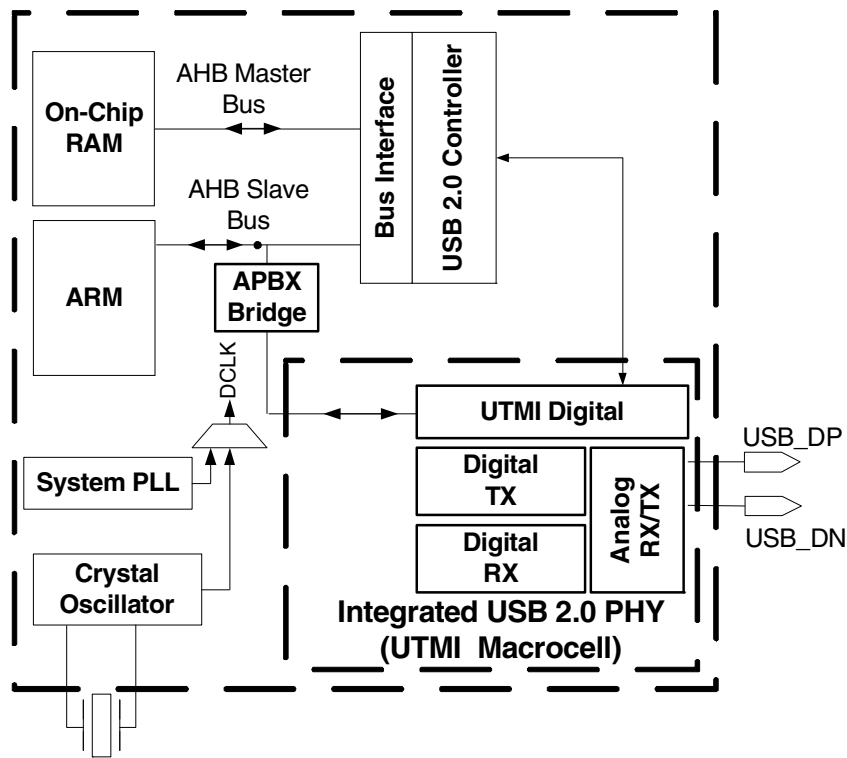

Figure 9-1. USB 2.0 PHY Block Diagram
The i.MX23 contains an integrated USB 2.0 PHY macrocell capable of connecting to PC host systems at the USB full-speed (FS) rate of 12 Mbits/s or at the USB 2.0 high-speed (HS) rate of 480 Mbits/s. See Figure 9-1 for a block diagram of the PHY. The integrated PHY provides a standard UTM interface. The USB_DP and USB_DN pins connect directly to a USB device connector.